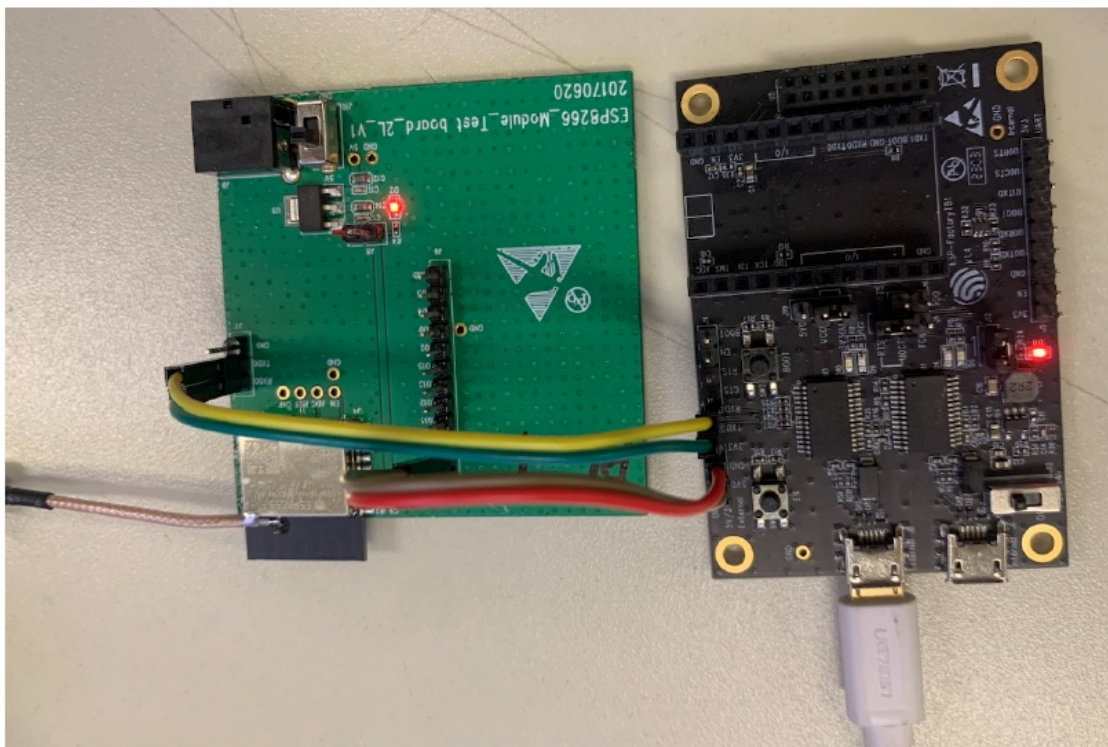

Figure 2: Hardware Connection
1. Solder the ESP32-H2-WROOM-02C module to the RF testing board as shown in Figure 2.